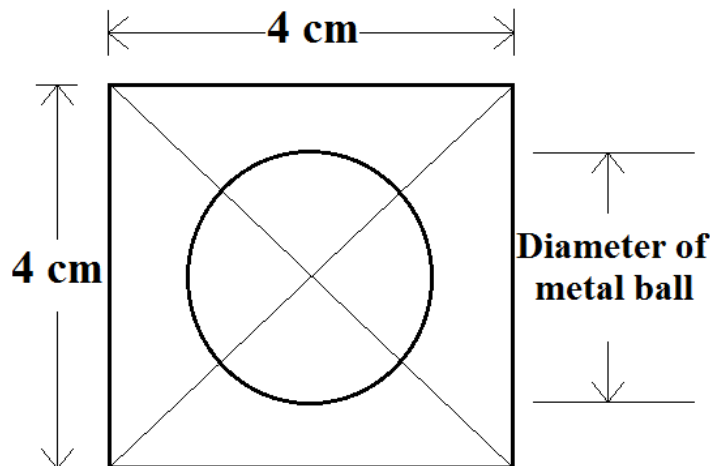

Figure 2: Thermocol block after marking
- Draw a circle of diameter equivalent to diameter of Metal ball with center as intersection of two diagonals of the square. Refer to Figure 2.